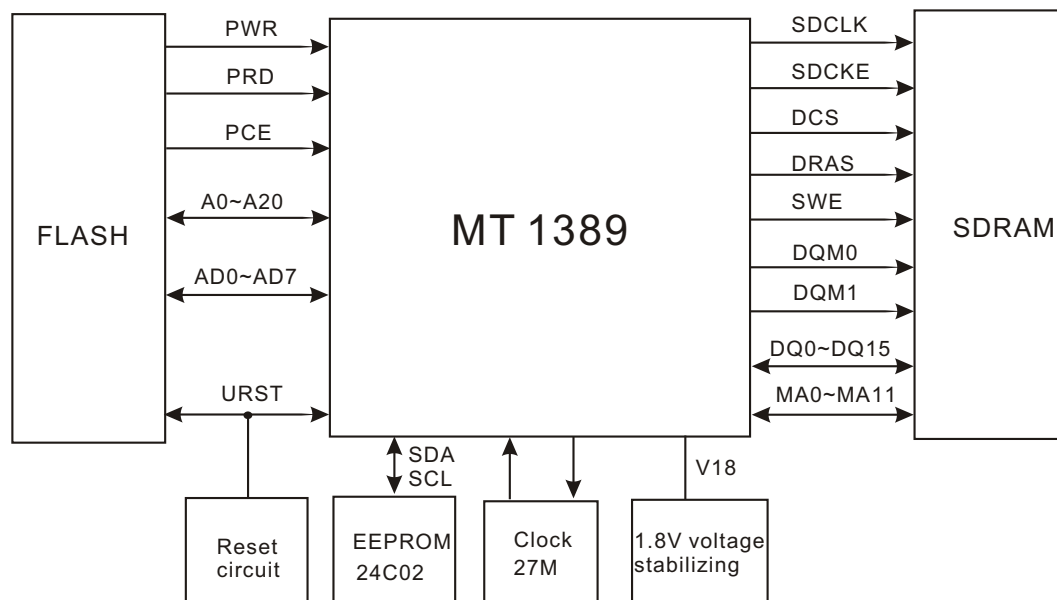

Figure 3.2.7.1 Decode circuit block diagram
1. Decode circuit block diagram is shown in the figure 3.2.7.1: